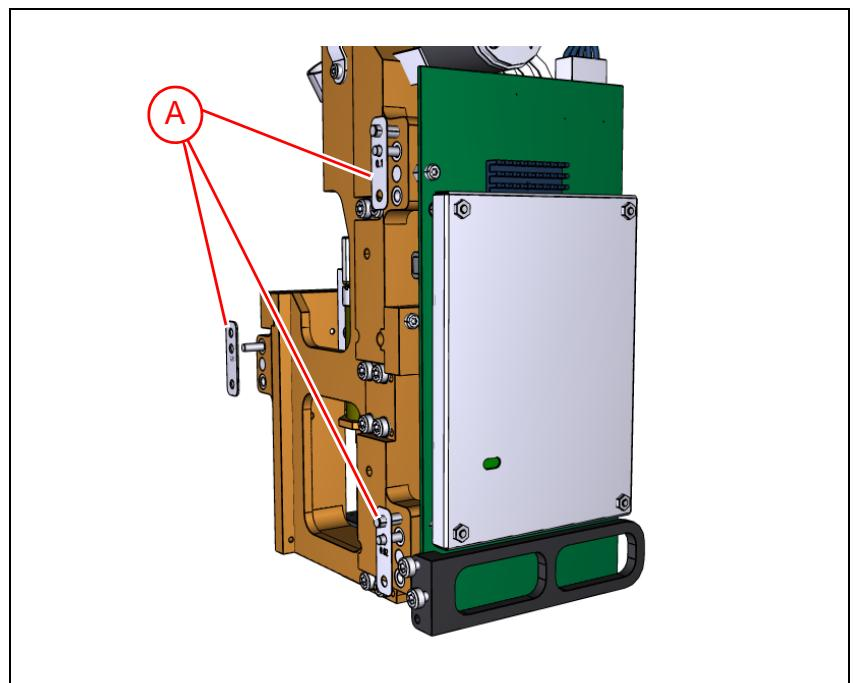

Figure 6-19. Put shims on attachment screws.
5. On the back of the HYDRA unit, put shims ('A' in Figure 6-19) with thickness 1.2 on the three attachment screws on the HYDRA frame. The shims thickness 1.2 is used as a starting point and may have to be modified during the installation procedure.
18. The goal of this procedure is to align all HYDRA tools with the Midas A14 tool by putting adequate amount of shims between the HYDRA and the X wagon (See Figure 6-19). A different amount of shims may be required on the right and left side of the HYDRA, but normally not more than 0.2.